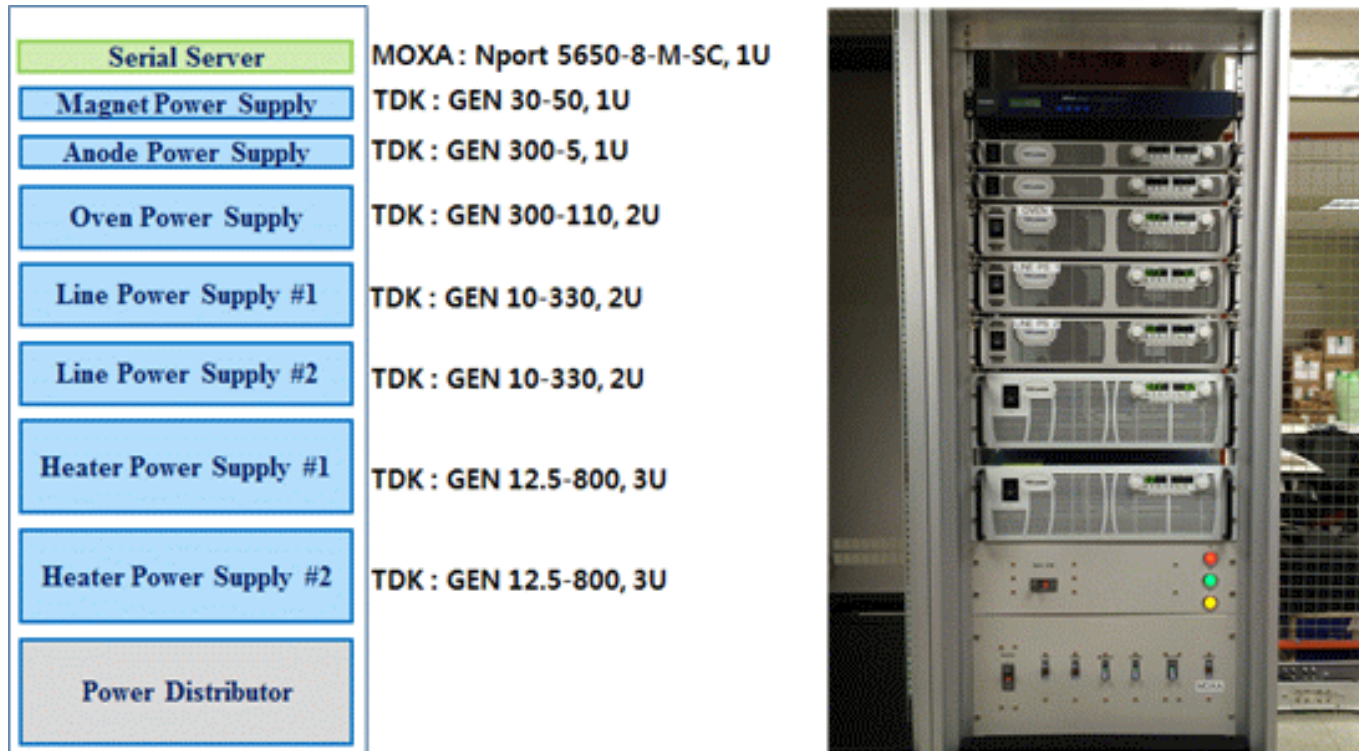

Fig. 3. High voltage Rack device configuration and installation photo
- Configuration of High Voltage Rack for controlling the Target/Ion-source is shown in Figure 3.